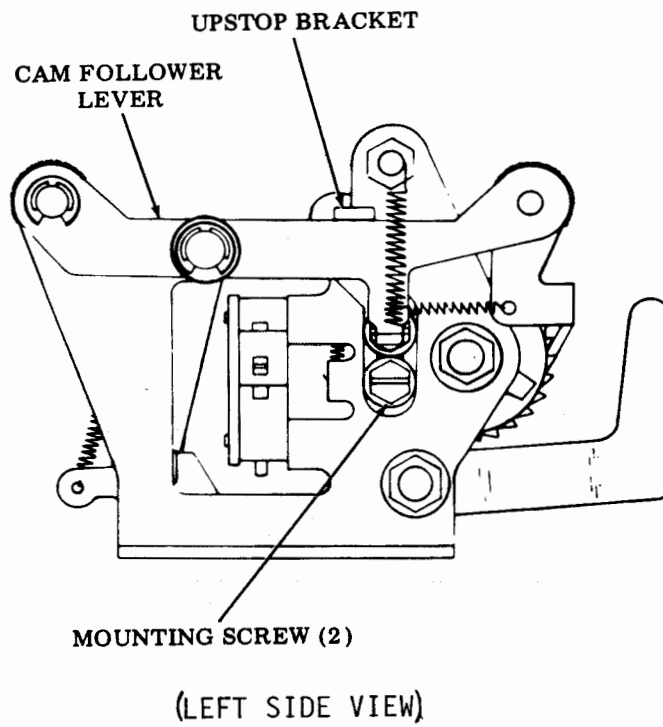

Figure 6-264. Disabling Device
(1) Refer to figure 6-264.
(2) To disable, loosen two mounting screws on the upstop bracket and lower bracket to its bottom position.
(3) To enable, carry out procedure in (b), but raise bracket to upper position.
(4) Tighten screws.